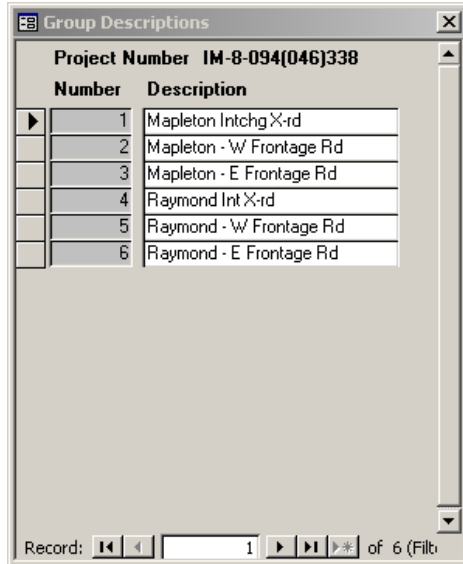

Figure 18 – Edit Group Description Dialog Box
- 20. **Edit Group Description:** Button used to edit the existing groups within the active project. After the Groups have been added into the project using the **Group No** field, you can change the description using this screen (see Figure 18.)